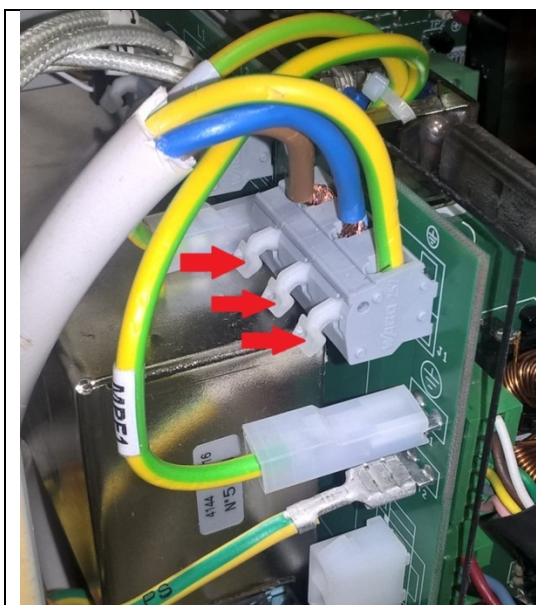
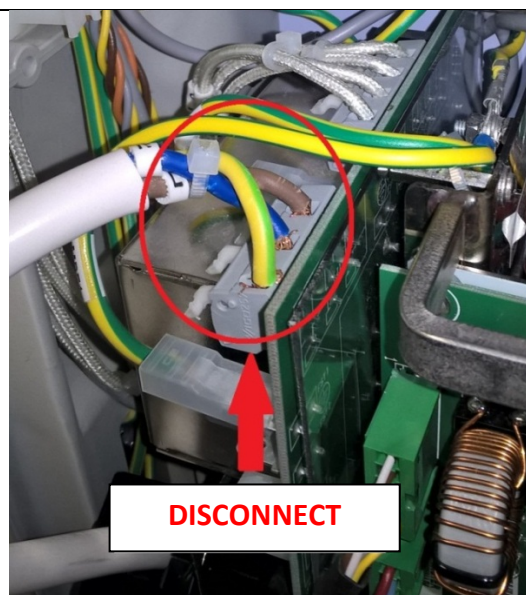

Fig. 4
Fig. 5
6. Disconnect power supply cable by pressing on the terminal release levers (Fig. 4 & Fig. 5).